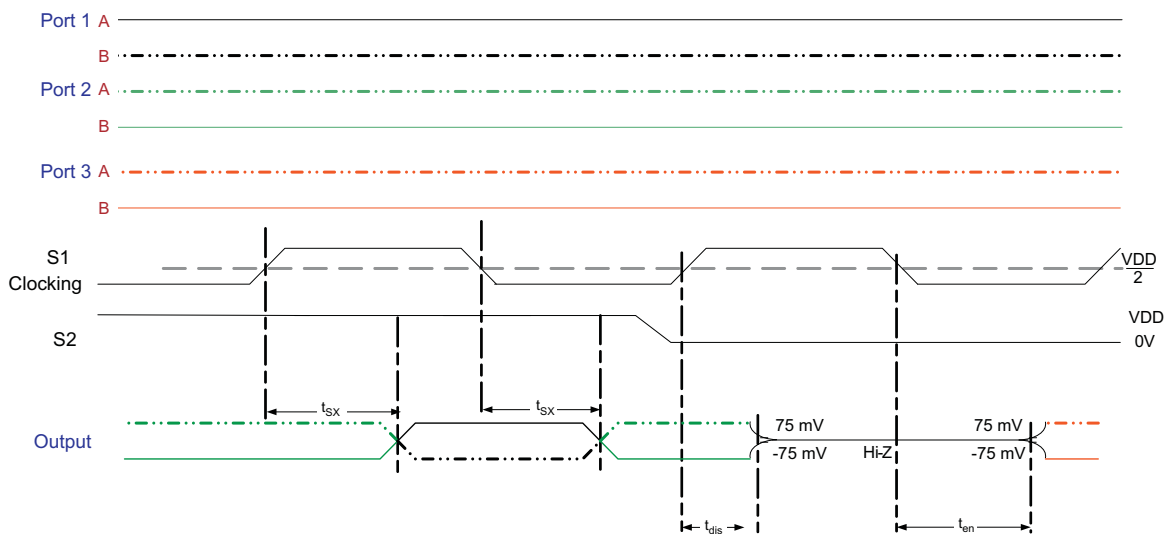

Figure 6. TMD5351 Outputs Control Timing Definitions
A. Channels 2, 3, 4, $V_{CC} = AV_{CC} = 3.3\text{ V}$, $T_A = 25^\circ\text{C}$, $R_{VSADJ} = 4.02\text{ k}\Omega$, See Figure 6
A. Channel 1, $V_{CC} = AV_{CC} = 3.3\text{ V}$, $T_A = 25^\circ\text{C}$, $R_{VSADJ} = 4.02\text{ k}\Omega$, See Figure 6
A. 1080p 10-Bit, $V_{CC} = AV_{CC} = 3.3\text{ V}$, $T_A = 25^\circ\text{C}$, $R_{VSADJ} = 4.02\text{ k}\Omega$, See Figure 6, Clock Channel = 185.6 MHz, Data Channel = 1.856 Gbps
A. 1080p 12-Bit, $V_{CC} = AV_{CC} = 3.3\text{ V}$, $T_A = 25^\circ\text{C}$, $R_{VSADJ} = 4.02\text{ k}\Omega$, See Figure 6, Clock Channel = 222.8 MHz, Data Channel = 2.228 Gbps